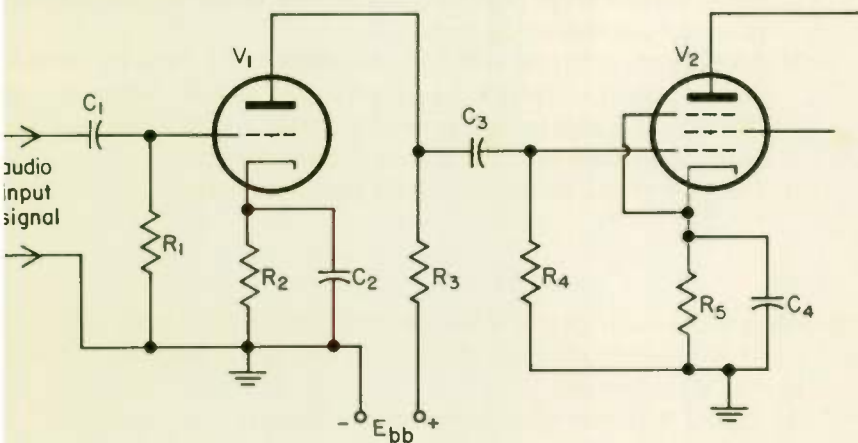

Fig. 38
- (1) equal to the plate resistance of the tube.
- (2) equal to twice the plate resistance of the tube.
- (3) equal to three times the plate resistance of the tube.
- (4) as high as it is practical to make it.
33. If the plate resistance of V_1 in Fig. 38 is 10,000 ohms, the highest practical voltage gain is obtained from the V_1 stage when R_3 has a resistance of